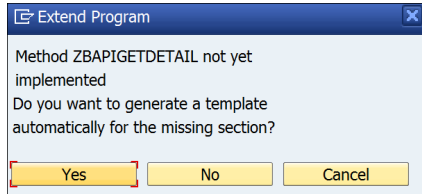
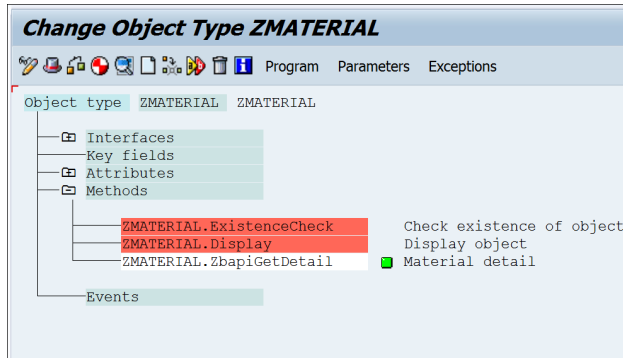

Figure 19.21 Generate Template
Figure 19.22 Method Added to Object Type
6. The wizard will prompt you to generate the required template to implement the method, as shown in Figure 19.21. Click YES to generate the template and implement the method automatically. At this point, the method will be added to the object type, as shown in Figure 19.22.